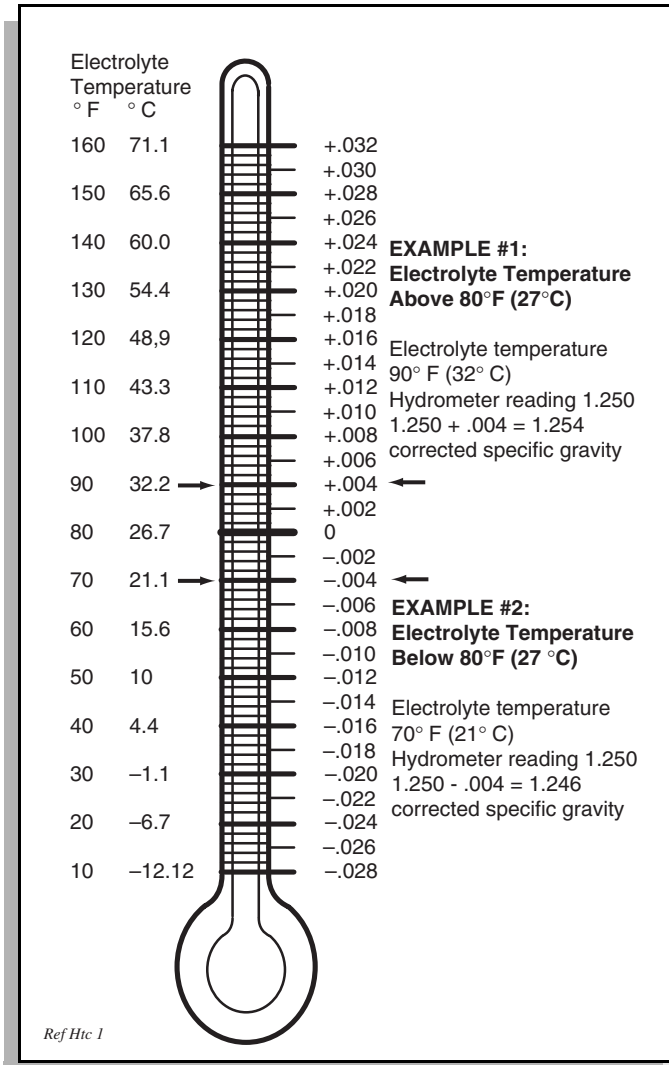

Fig. 31 Hydrometer Temperature Correction
4. Add or subtract four points (.004) to the reading for every 10° F (6° C) the electrolyte temperature is above or below 80° F (27° C). Adjust the reading to conform with the electrolyte temperature, e.g., if the reading indicates a specific gravity of 1.250 and the electrolyte temperature is 90° F (32° C), **add** four points (.004) to the 1.250 which gives a corrected reading of 1.254. Similarly if the temperature was 70° F (21° C), **subtract** four points (.004) from the 1.250 to give a corrected reading of 1.246 (Ref Fig. 31 on page 25).